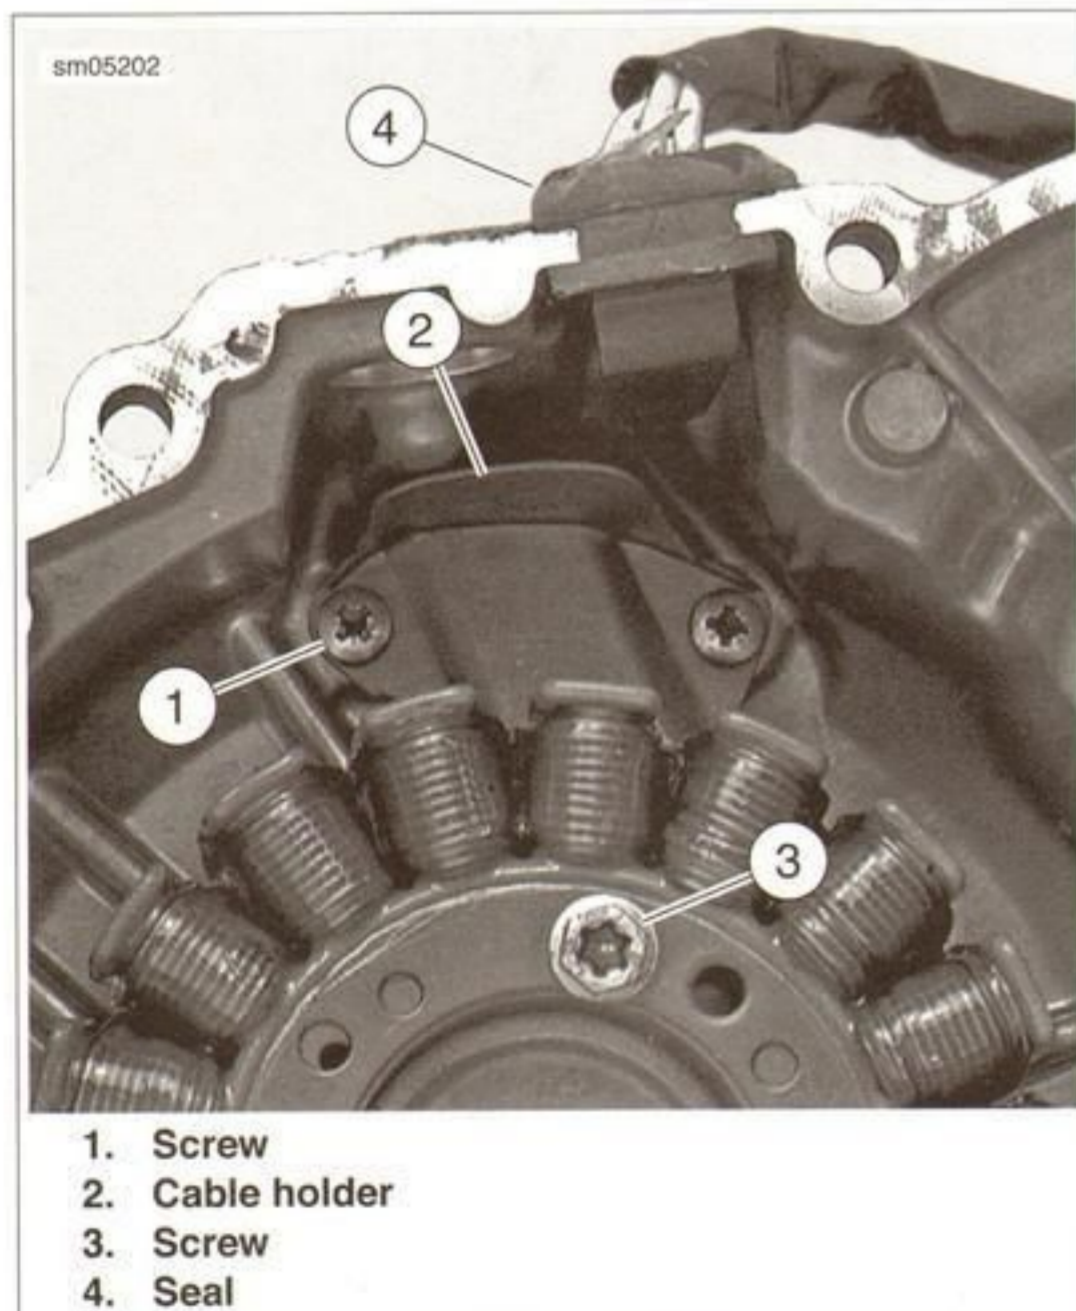

Figure 7-35. Stator
2. See Figure 7-35. Remove the two screws (1) securing the cable holder (2).
- Remove the three screws (3) securing the stator to the ignition cover.
- Slide the rubber seal (4) out of the slot in the ignition cover.